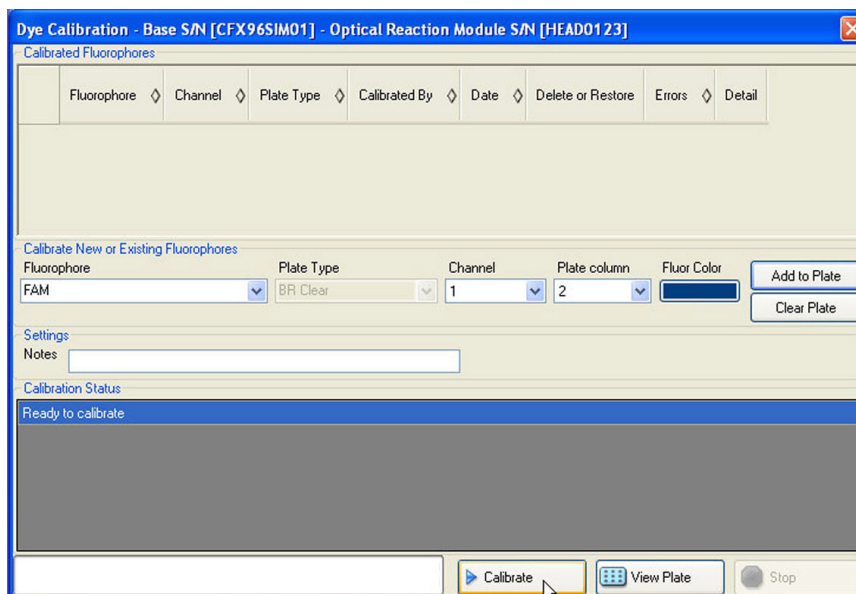

Figure 105. Dye Calibration window.
2. Select **Tool > Calibration Wizard** to open the window and calibrate new dye and plate combinations (Figure 105).
Figure 105 shows an example of the Dye Calibration window.